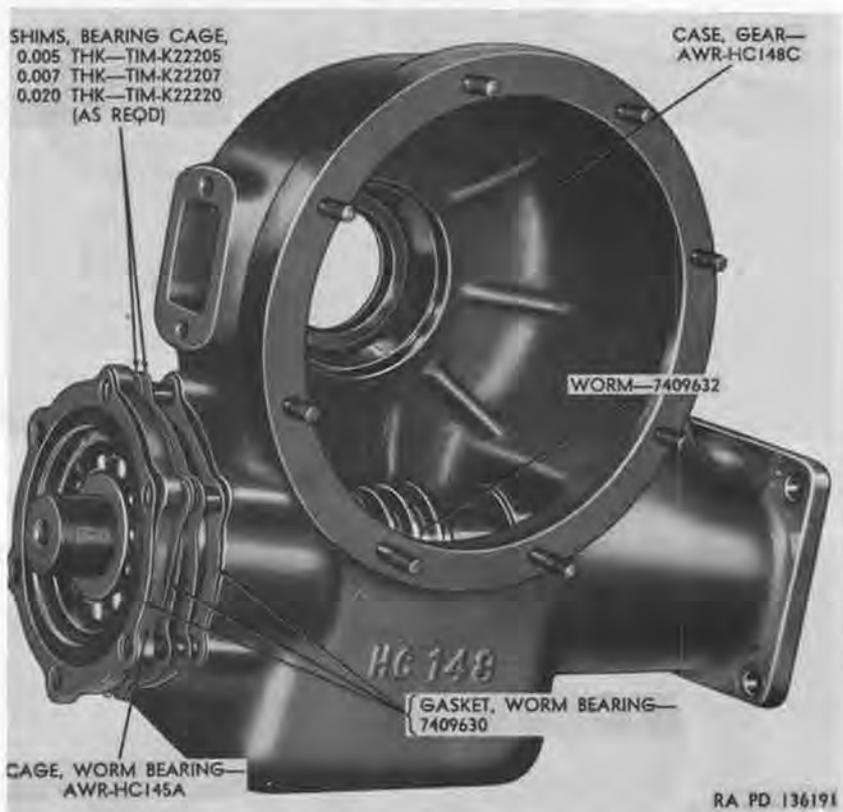

Figure 39. Worm partially removed from gear case.
- (4) Lift out drive gear (M), shaft (AX), spacers (AW and AY), and bearing cones (AV and L) assembly.
- (5) Place a brass drift on the forward end of worm and tap the drift with a hammer to drive the worm, bearings, slingers, shims, gasket, and cage assembly from the gear case. Discard gaskets. Figure 39 shows worm partially removed from case.